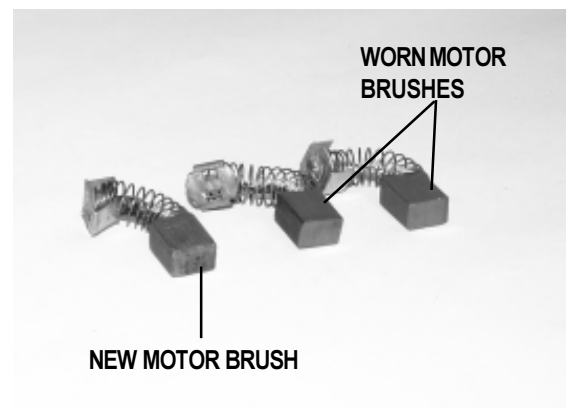

Figure 28. Motor Brushes
4. Inspect for wear. See figure 28.